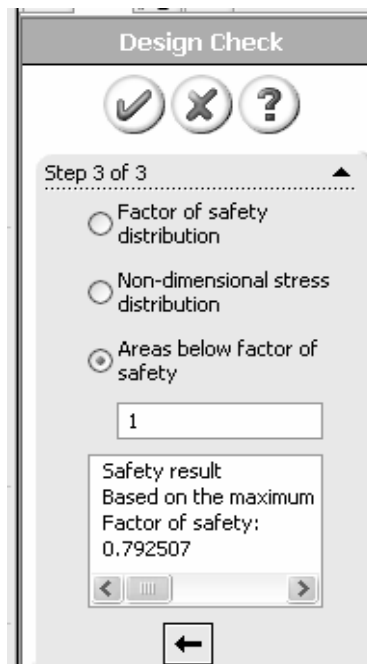

Figure 23 – Redefinition of *Safety Factor* and values to be displayed on the new plot.
7. Click the arrow button [→] at bottom of this dialogue box to proceed to **Step 3 of 3** in the **Design Check** property manager shown in Fig. 23.